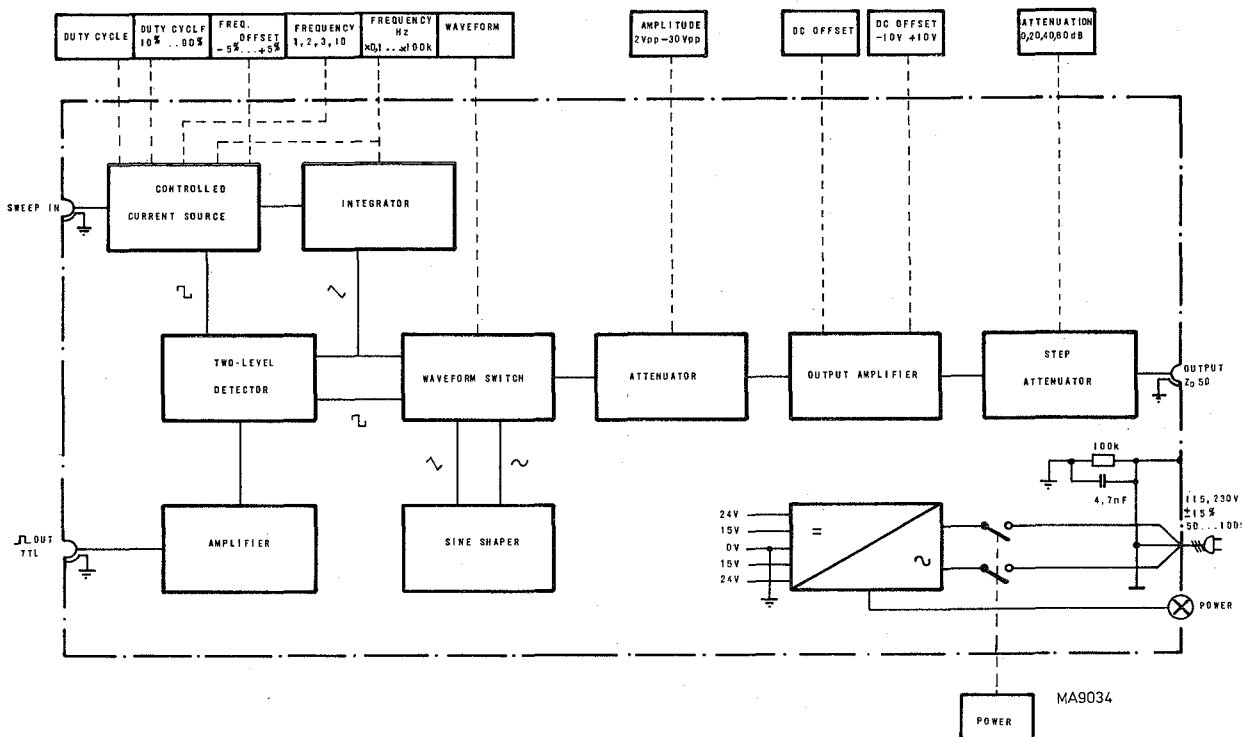

Fig. 1. Block diagram of the generator
1.4. DESCRIPTION OF THE BLOCK DIAGRAM (Fig. 1)